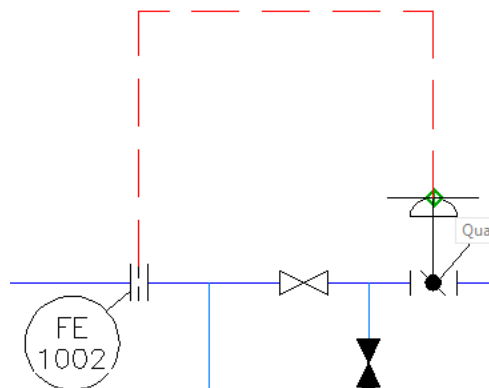

Figure 2-73 Specifying the endpoint of the electric signal line
8. Next, move the cursor downward and specify the endpoint on the control valve, refer to Figure 2-73.